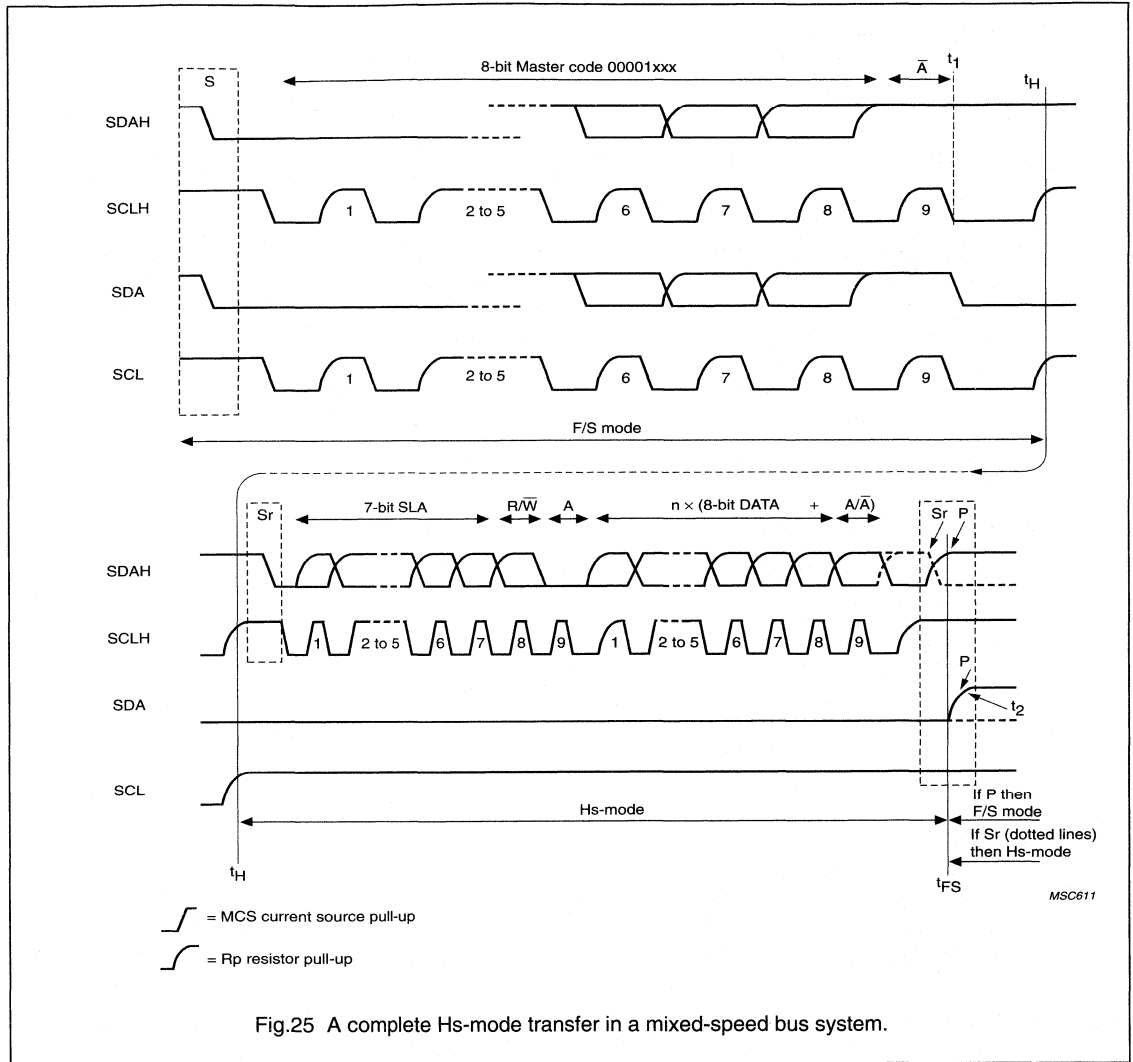

Fig.25 A complete Hs-mode transfer in a mixed-speed bus system.
Figure 25 shows the timing diagram of a complete Hs-mode transfer, which is invoked by a START condition, a master code, and a not-acknowledge \bar{A} (at F/S-mode speed). Although this timing diagram is split in two parts, it should be viewed as one timing diagram were time point t_H is a common point for both parts.
1. Between t_1 and t_H (see Fig.25), transistor TR1 opens to separate the SDAH and SDA lines, after which transistor TR3 closes to pull-down the SDA line to V_{SS} .
2. When both SCLH and SCL become HIGH (t_H in Fig.25), transistor TR2 opens to separate the SCLH and SCL lines. TR2 must be opened before SCLH goes LOW after Sr.
Hs-mode finishes with a STOP condition and brings the bus system back into the F/S-mode. The active master disables its current-source MCS when the STOP condition (P) at SDAH is detected (t_{FS} in Fig.25). The bridge also recognizes this STOP condition and takes the following actions:
2. When SDA reaches a HIGH (t_2 in Fig.25) transistor TR1 closes to connect SDAH with SDA. (Note: interconnections are made when all lines are HIGH, thus preventing spikes on the bus lines). TR1 and TR2 must be closed within the minimum bus free time according to the Fast-mode specification (see t_{BUF} in Table 5).
It can be seen from Fig.25 that the actions of the bridge at t_1 , t_H and t_{FS} must be so fast that it does not affect the SDAH and SCLH lines. Furthermore the bridge must meet the related timing requirements of the Fast-mode specification for the SDA and SCL lines.